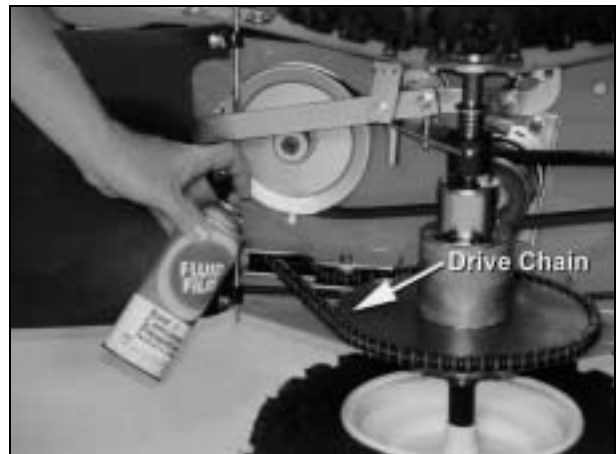

Figure 12
- The drive chain and the chain adjuster slide plate (*Figure 12*).